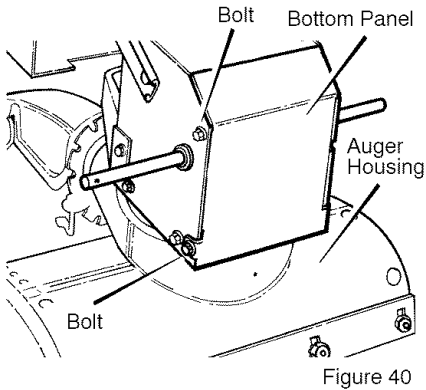

Figure 40
3. Loosen the **bolts** on each side of the **bottom panel** (see Figure 40).